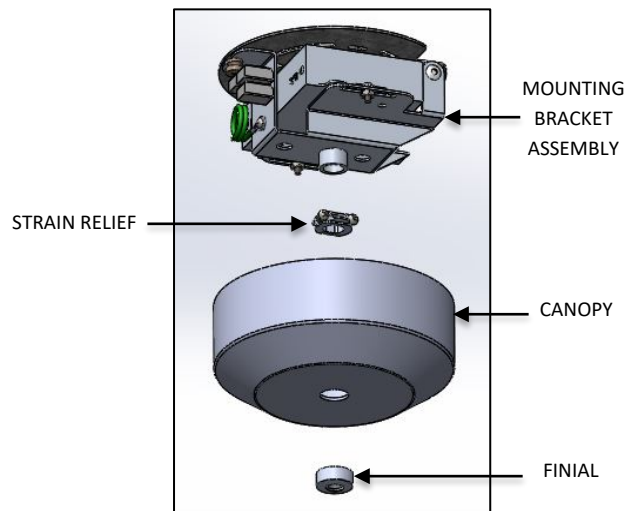

FIG. 4 MOUNTING KIT CONTENTS
- b. MOUNTING KIT CONTENTS (as shown in FIG. 4)